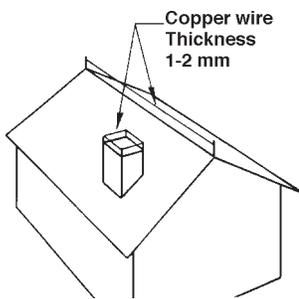

Figure 111
- 111 Birds are the most common source of pollution on roofs. They can, however be prevented from landing by putting wires low over the roof surface (Figure 111).